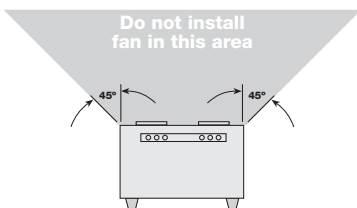

Figure 3
5. These fans are not recommended for cooking exhaust applications. They are designed primarily for low temperature, clean air applications only. Figure 3, page 6 shows the minimum distance these fans should be placed in relation to cooking equipment.
1. For best performance, choose a location with the shortest possible duct run and minimum number of elbows. Do not mount near cooking equipment, shown in Figure 3.